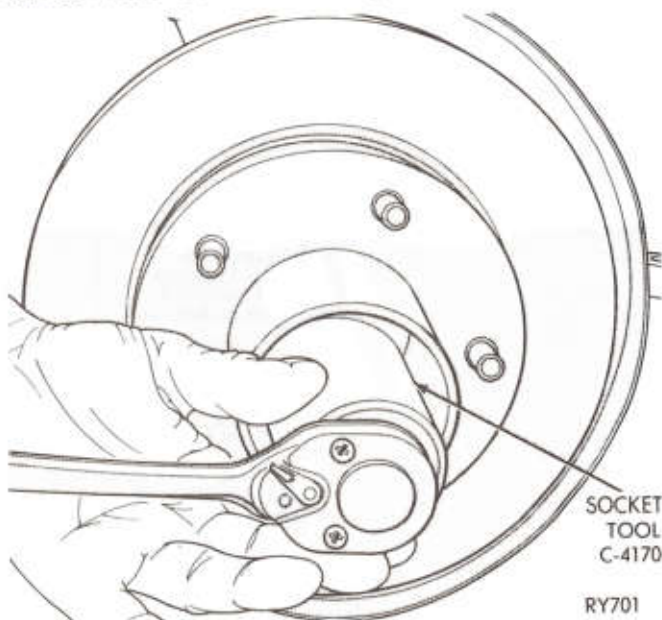
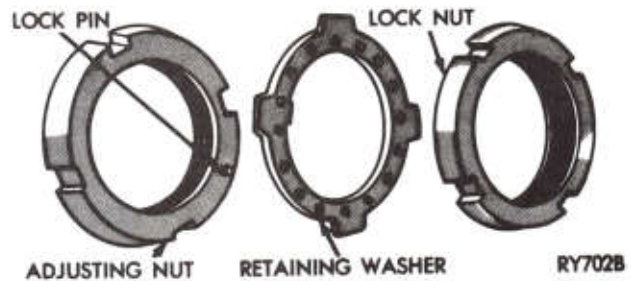

Fig. 1—Removing Wheel Bearing Adjusting Nut
Fig. 2—Wheel Bearing Adjusting Nut, Retaining Washer, and Locknut
(3) Remove the grease cap and driving hub snap ring.
(4) Remove driving hub and retaining spring.
(5) Using Tool C-4170-A, remove wheel bearing adjusting lock nut (Fig. 1). Remove lock nut, retaining washer, and wheel bearing adjusting nut (Fig. 2).
(6) Remove braking disc; outer wheel bearing and retainer spring plate will slide out as rotor is removed.
(7) Pry inner wheel bearing grease seal from hub and remove bearing cone.
(8) Remove inner and outer bearing cups.